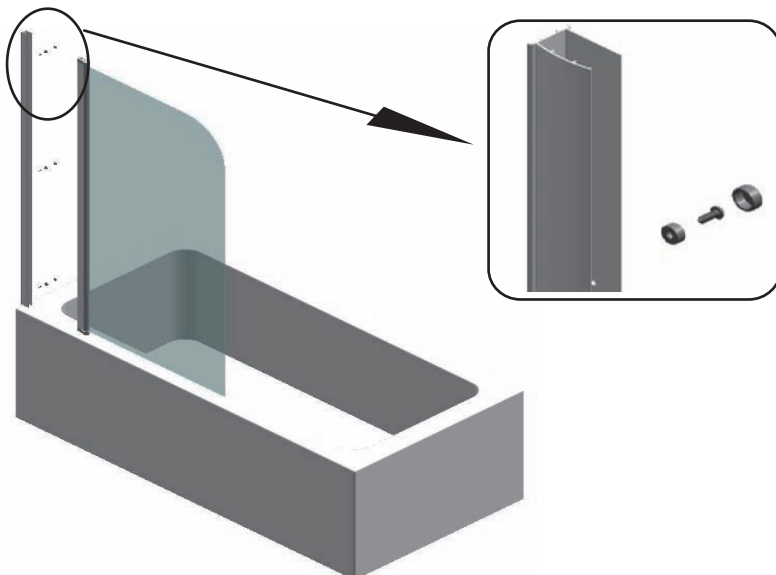

FIG 5
4. Plumb the wall profiles **LR8387C** using the vertical element of the spirit level. Mark 3 holes, drill with 6mm masonry bit and fit wall plugs **2SP12**. Using the 3 Screw **2SY51**, fix wall profiles to wall. Fig 5.
6. Drill 3 holes through the wall profile and fixed panel using a 3mm steel drill bit. Using the Screws **2SY50**, and screw cover caps **2SS008** and screw cover caps clips **2SS009**, fix the hinge upright to the wall profile in 3 places. Fig 5.